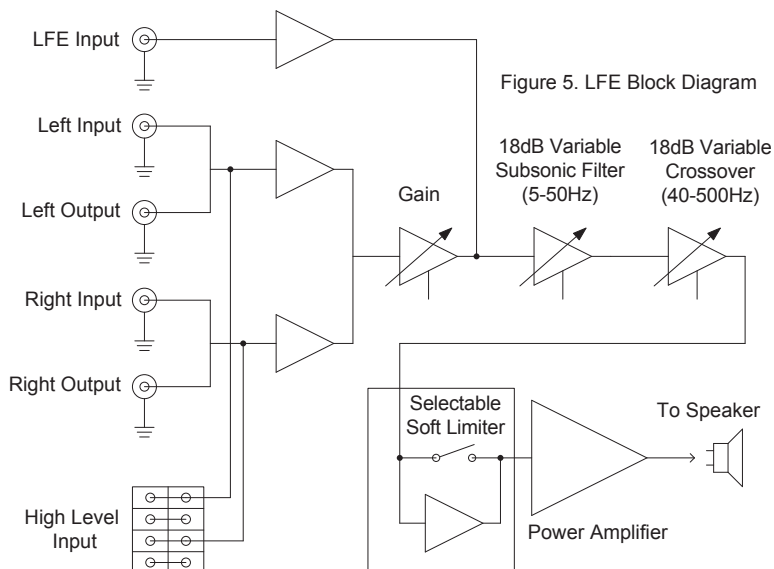

Figure 5. LFE Block Diagram
Optional connection to LFE output from your receiver. Bypasses amplifier volume control, use receiver to set levels. Also set Variable Crossover (5) to full clockwise position (500Hz) and Subsonic Filter (4) slightly lower than your woofer's F3 point, or between 9 and 12 o'clock if woofer specs unavailable. See block diagram (figure 5) on page 5.
Some home theater receivers have LFE Output. This bypasses the amplifier volume control, so use the receiver to set levels. Also set Variable Crossover 5 to full clockwise position (500Hz) and Subsonic Filter 4 slightly lower than your woofer's F3 point, or between 9 and 12 o'clock if woofer specification is unavailable. See block diagram (figure 5) on page 5.